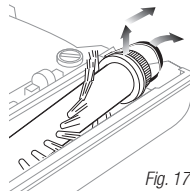

Fig. 17
- 5 Carefully lift and remove the brushbar from the belt. (Fig. 17) To reinsert the brushbar, slide the brushbar into the bushing and then place the belt over the ridges of the brushbar cap. Replace the trap door and lock in place.